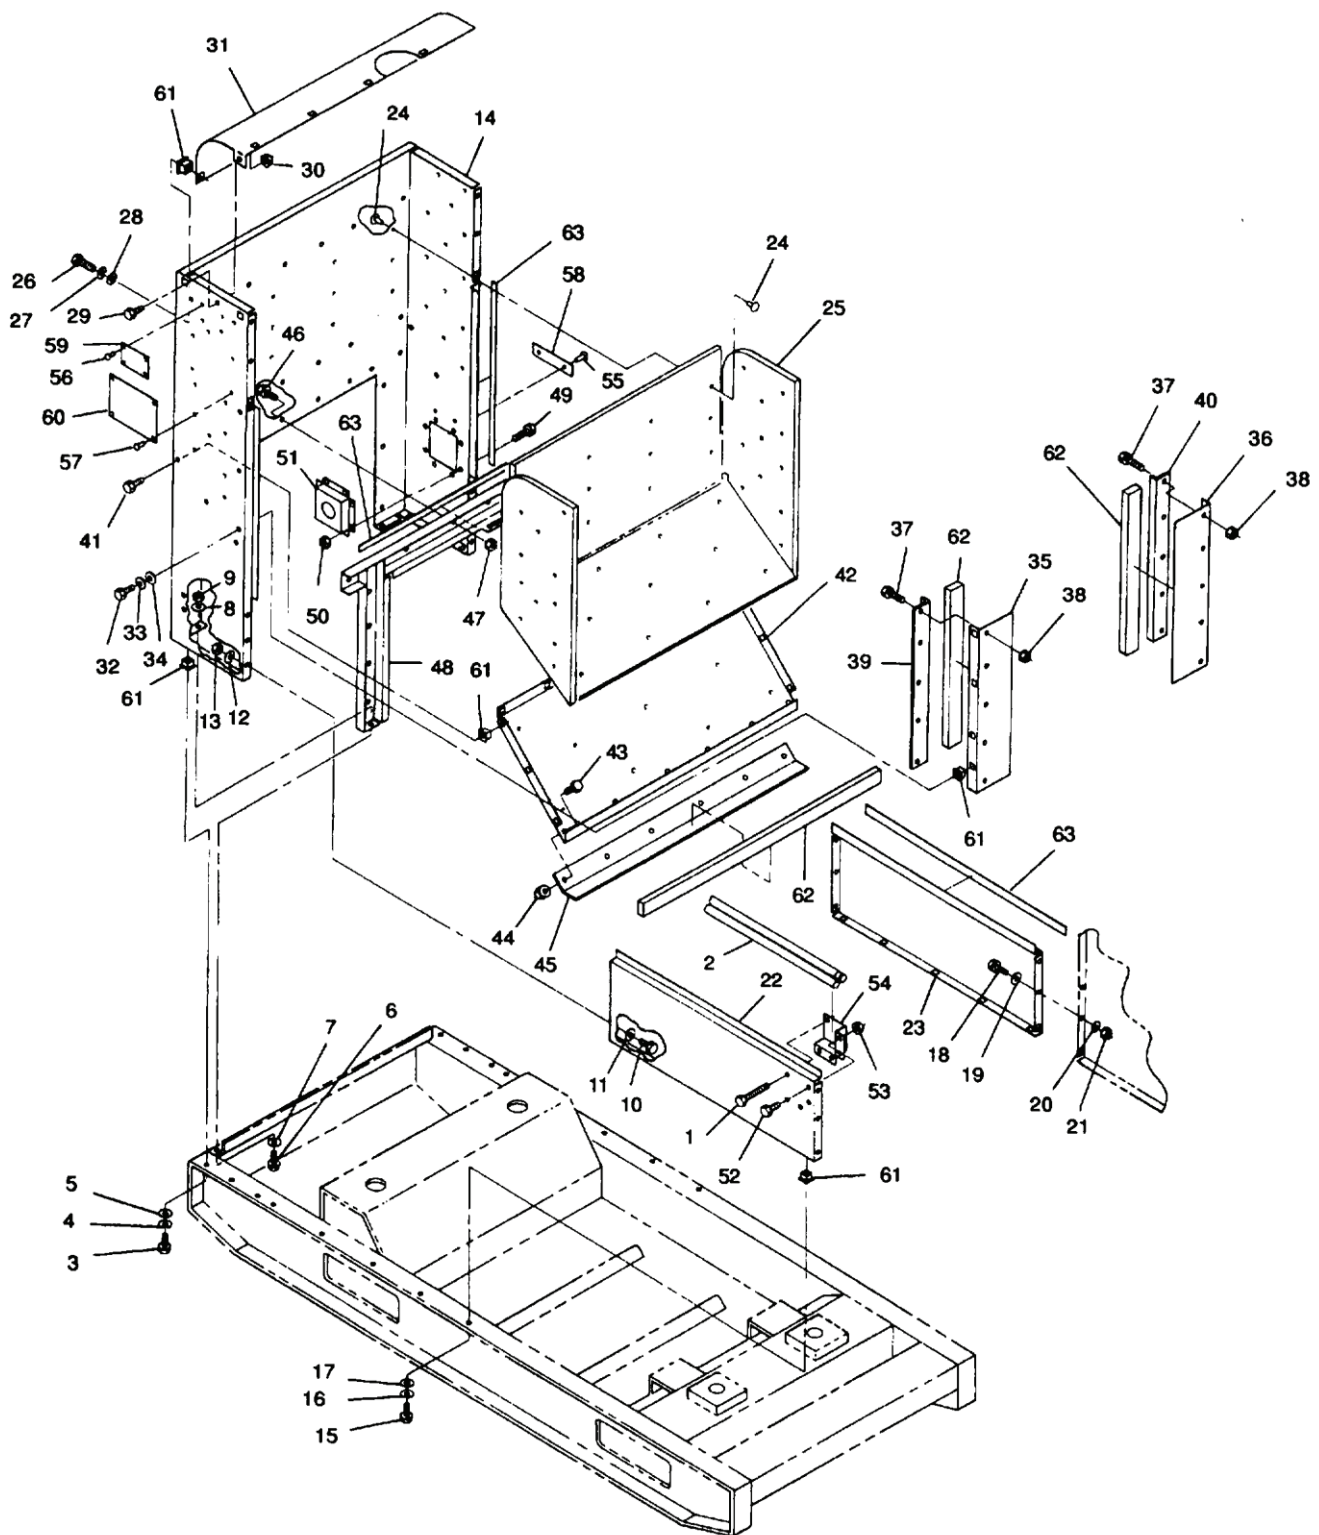

Figure 1. Generator Set Front Housing Section.
3. Repaint surfaces in accordance with TM 43-0139. (F) Refer to applicable directives.
4. Replace any cracked or stripped cage nuts (Figure 1, Item 61).
5. Replace damaged insulation and missing clip halves (24). Refer to WP 0129 for fabrication of insulation.
1. Install identification plates (Figure 1, Items 58, 59, and 60) on front panel (14) and side panel (22) with rivets (55, 56, and 57), if removed.
2. Install brackets (54) on panels (14 and 22) with bolts (52) and assembled nuts (53).
3. Install slave receptacle box (51) on front housing panel (14) with bolts (49) and assembled nuts (50).
4. Install side panels (22 and 23) on generator set with bolts (15 and 18), flat washers (17 and 19), new lockwashers (16 and 20), and nuts (21).
5. Install support channel (48) on front panel (14) with bolts (46) and assembled nuts (47).
6. Install support (45) on panel (42) with bolts (43) and assembled nuts (44).
7. Install panel (42) on front panel (14) with bolts (41).
8. Install supports (39 and 40) on panels (35 and 36) with bolts (37) and assembled nuts (38).
9. Install panels (35 and 36) on front panel (14) with bolts (32), new lockwashers (33), and washers (34).
10. Install air deflector (31) on front panel (14) with bolts (26 and 29), washers (28), new lockwashers (27), and assembled nuts (30).
11. Install insulation (25) on front panel (14) with clip halves (24).